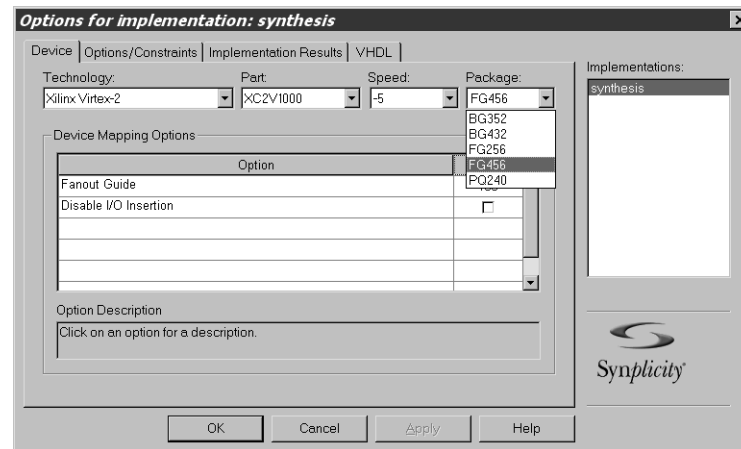

Figure 5-15: Options for Implementation: Device
- From the main project window, click Change Target to display the Options for Implementation dialog box, as shown in Figure 5-15.